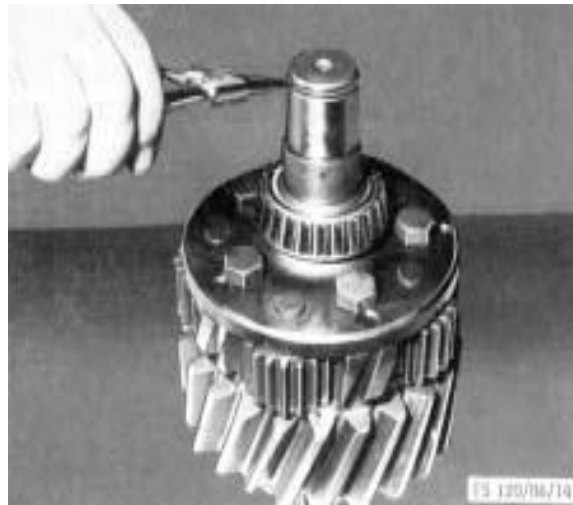

Fig. 5-21
- 7. Refer to Fig.5-12, when removing the inner race of roller bearing 26 from intermediate shaft 24, the puller (part 2 in Fig.5-21) and special tool (part 3 in Fig. 5-21) should be used.